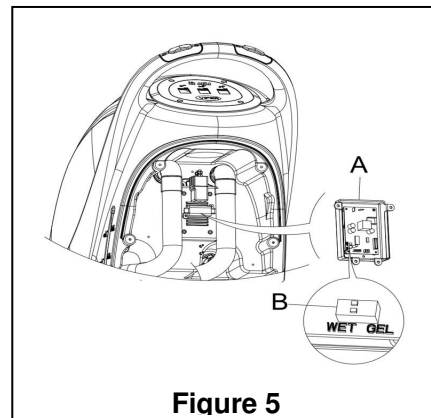

Figure 5
1. Make sure the battery connector (9) is disconnected. If the machine is based on "AGM" battery at the factory, go directly to Step 8; otherwise, complete Steps 2, 3, and 4.
2. Remove drain hose (15)
4. Take off the control cover (5), and the battery cover screws (10). Remove the screws on the PCB stand. The DIP switch (B) for setting the battery model can be seen when flipping over the PCB board. (See Figure 5)
5. Adjust the micro DIP switch (B) to the position of "WET",